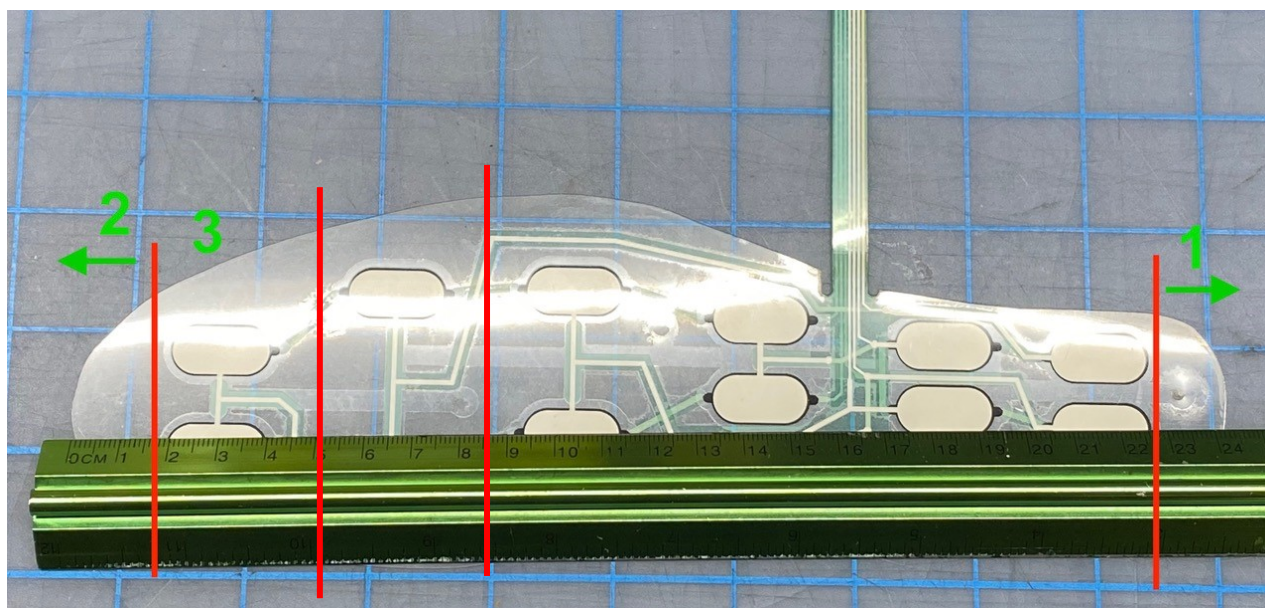

Figure 17 Trimming Order
3. If trimming the plastic at the ends is not enough, and you need to trim the silver sensors themselves, start at the toe end and trim off the furthest toe sensors. Trim the whole sensor off - do not trim in the middle of the silver sensors or your FSR may not function correctly. Do not trim laterally across the FSR in any location other than the red lines in Figure 17 Trimming Order.